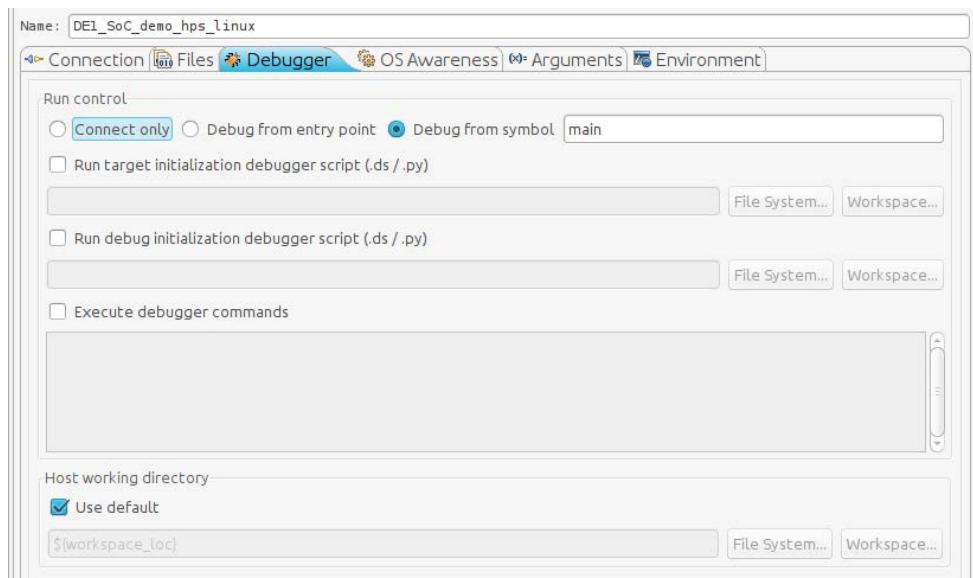

Figure 13-17. Debug Configuration "Debugger" Tab
87. Under the “Debugger” tab, make sure that “Debug from symbol” is selected and that “main” is the name of the symbol, as shown in Figure 13-17.